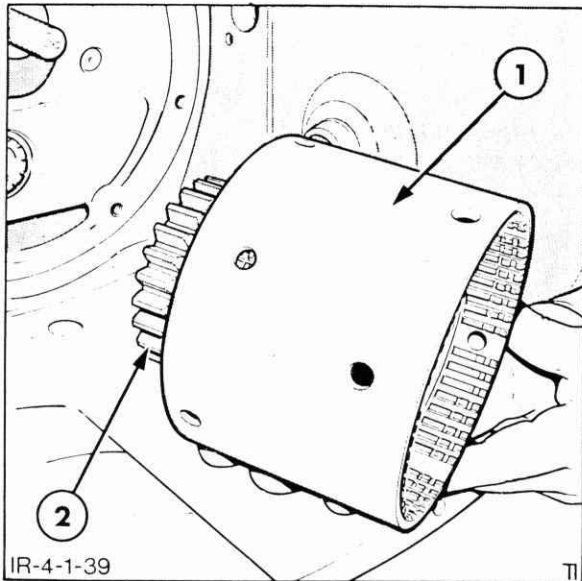

Figure 4-138
2. Install the partially assembled clutch housing, Figure 4-138, over the rear input shaft while exercising care to prevent damaging the roller bearings. Make sure the spacer, shim and thrust washer are installed on the rear input shaft.